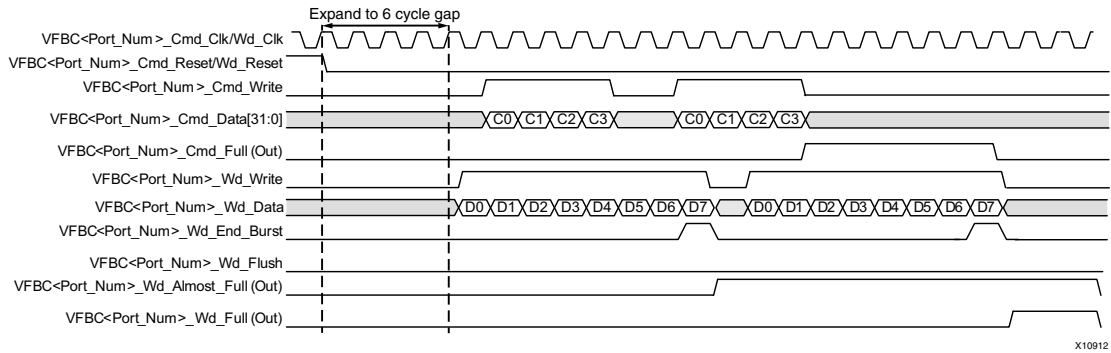

Figure 40: VFBC Write Timing
- The VFBC<Port_Num>_Wd_End_Burst signal is used only when the transfer is not a multiple of the burst size. If the transfer ends on a boundary that is not 32-word aligned, this signal must be asserted High during the last word transferred. Figure 40 shows a typical VFBC Write operation and provides an example of VFBC Write Timing. The actions of the Write data interface are enumerated after Figure 40.
- As shown in Figure 40, the command words C0, C1, C2, and C3 are being written during a data Write. The command words can be written before, during, or after the data is written.
- Figure 40 also shows one cycle between VFBC<Port_Num>_Wd_End_Burst and the next burst, although zero to any number of cycles can exist between burst end and the next burst. The number of cycles between bursts is controlled by the VFBC<Port_Num>_Wd_Write signal. This is the FIFO data push signal asserted by the VFBC client.